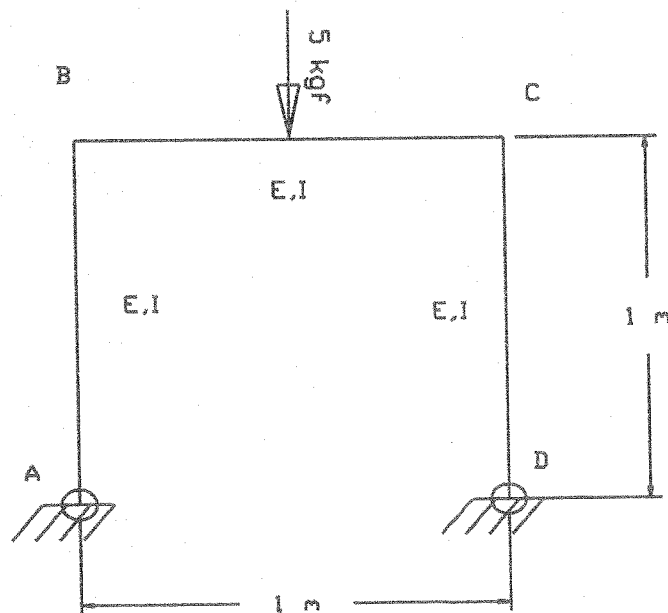

Fig. Q3
- b) Fig Q3 show a portal frame with pin support used for validating the Castigliano's theorem. Calculate the horizontal reaction due to knife edge load of 5 kg applied at the center of the beam BC. Assume same uniform cross sectional area, second moment of area (in the plan of bending) and Young's modulus for all the members of the portal frame. Consider only the bending energy of the system in the calculation of horizontal reaction. [5 Marks]